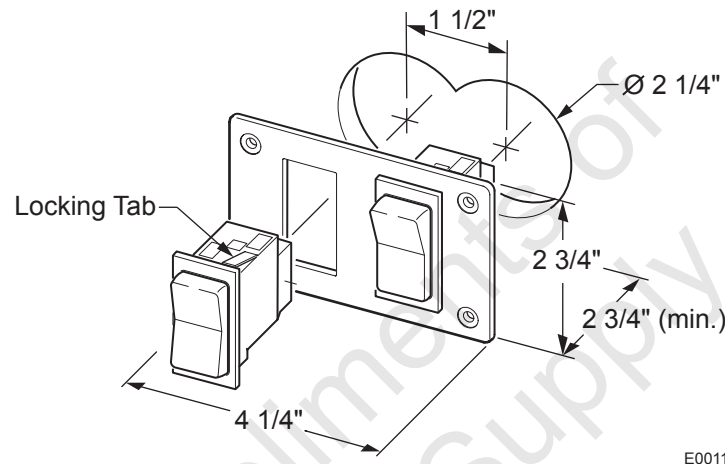

Figure 12. Double Switch Plate Assembly.
4. (Refer to Figure 12) At the switch panel location, use a 2 1/4" hole saw and cut 2 holes 1 1/2" apart.